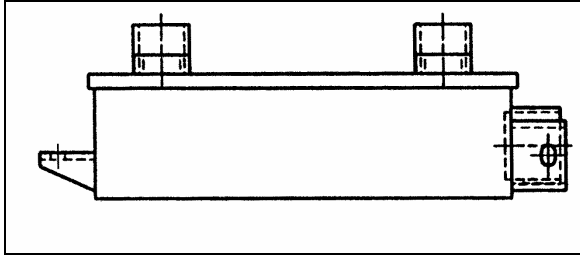

FIGURE 13: COOLER WITH RETARDER
18. Adjust the retarder pressure to 80 ± 3 psi with the air pressure regulator. For more information refer to Section 12, "BRAKE AND AIR SYSTEM", under heading "AIR PRESSURE REGULATOR". The air pressure regulator is located near the Webasto in engine compartment, on R.H. side (Fig. 13).